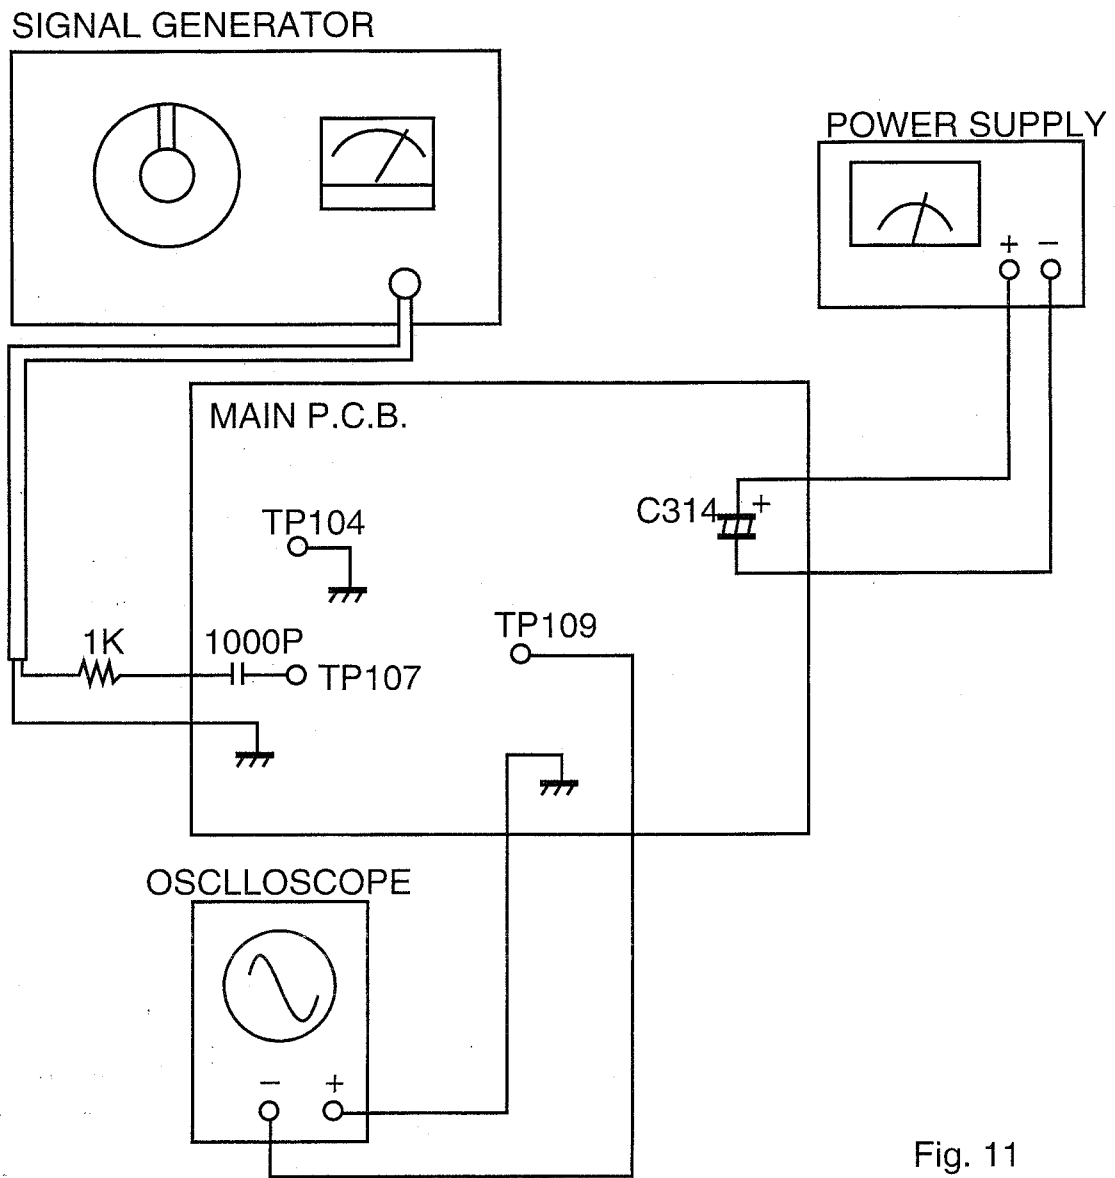

Fig. 11
2. Adjust T103 for the marker (38.9MHz) of AFC wave form the centre position. (Fig. 11).